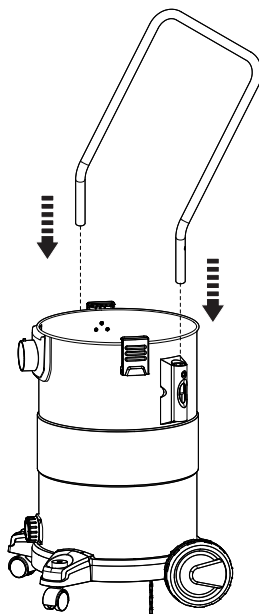

Fig. 6
- > Insert the push/pull handle (1) into the handle sockets (2) mounted on either side of the collection tank. Push down until the lock pins click in place (Fig. 6).